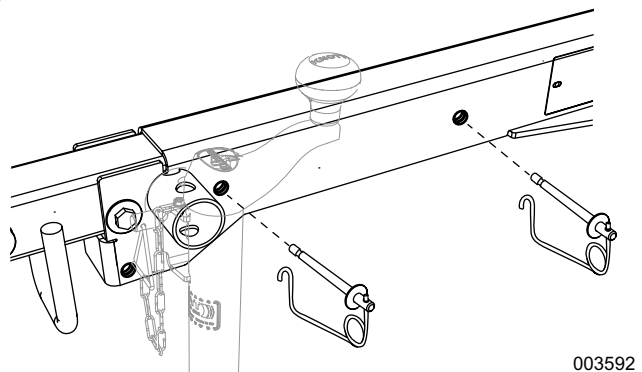

Figure 2-5. Install and Secure Pins
7. See Figure 2-5. Install pins as shown to secure trailer tongue in tow position.